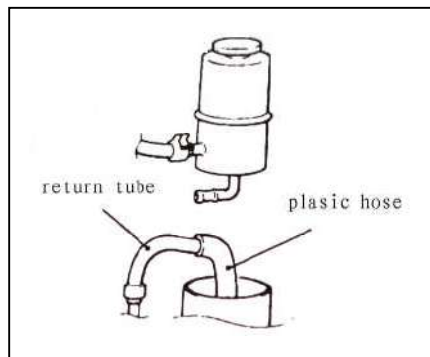

Fig 17-7
- (1) Park the vehicle on a flat, level surface, start the engine, and then turn the steering wheel several times to raise the temperature of the fluid to approximately 50-60°C.
- (2) With the engine running, turn the wheel all the way to the left and right several times.
- (3) Check the fluid in the oil reservoir for foaming or milkiness.
- (4) Check the difference of the fluid level when the engine is stopped, and while it is running. If the change of the fluid level is 5mm or more, air bleeding should be done.
8、POWER STEERING FLUID REPLACEMENT(See fig 17-7)